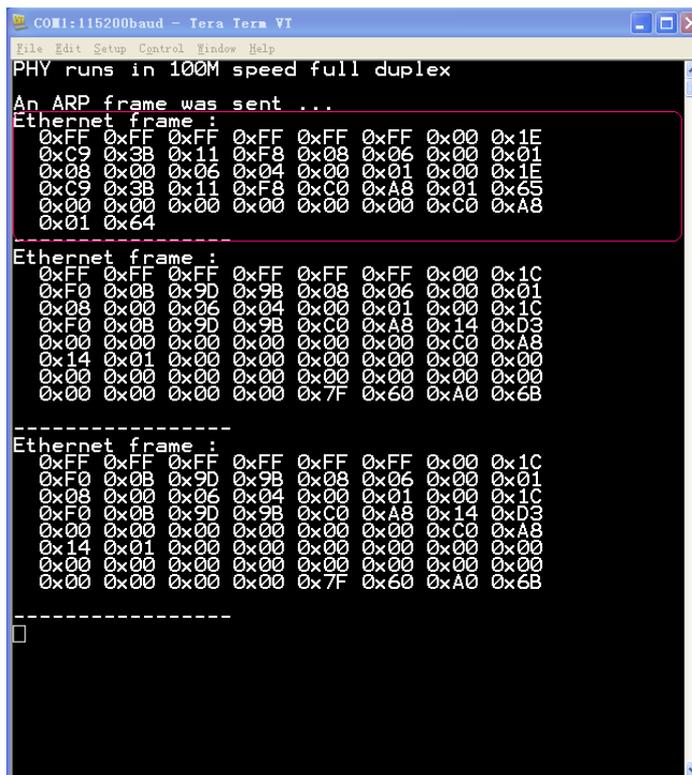

Figure 2-8 Predefined Frame Received via UART
- 2) After initialization and configuration, M7A begins to transmit a predefined frame for one time. At the same time, the predefined frame is sent to PC via UART. It is seen in figure 2-8.